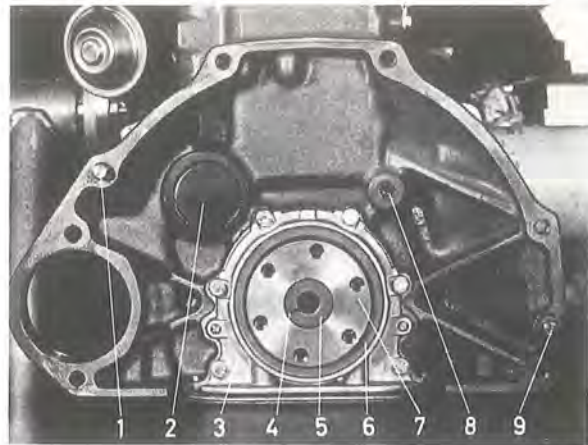

Fig. 2-19. Rear end of engine
The pilot bearing (5, Fig. 2-19) should be lubricated before fitting with heat-resistant ball bearing grease. The bearing and protecting washer are held in position by a circlip (4).